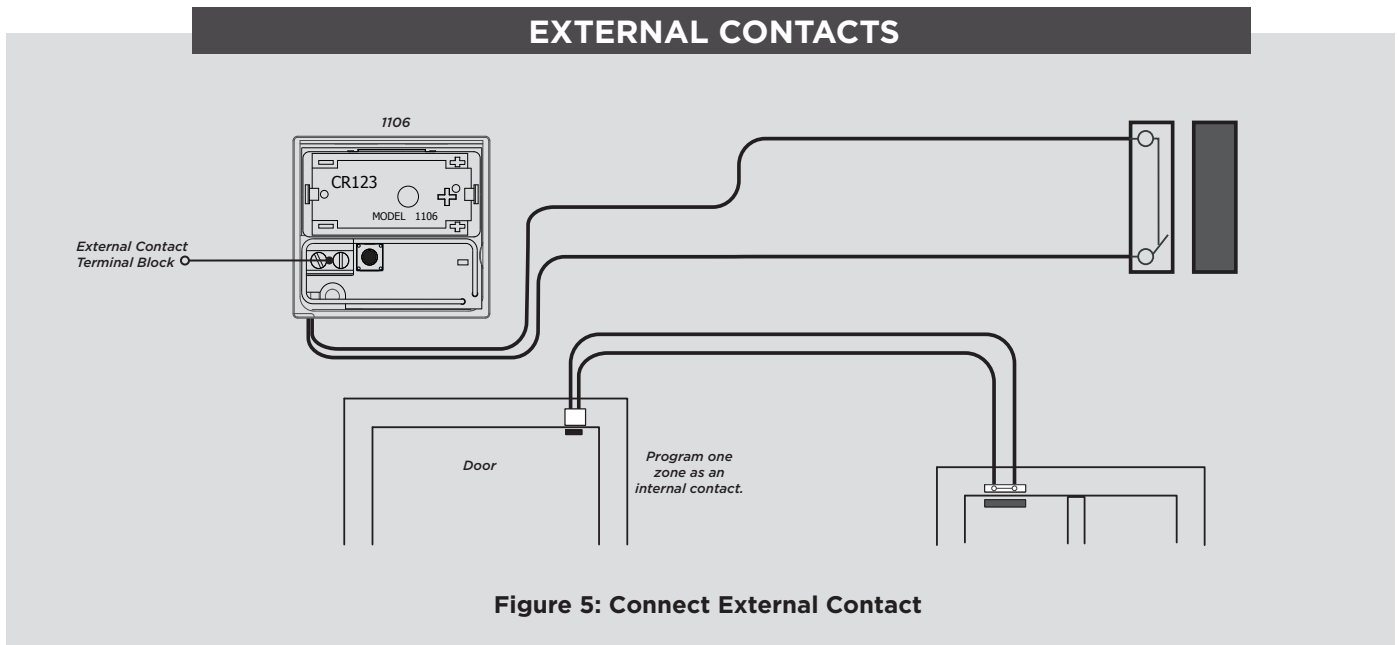

Figure 5: Connect External Contact
2. Use a flat head screwdriver to loosen the two screws on the 1106 terminal block. See Figure 5.